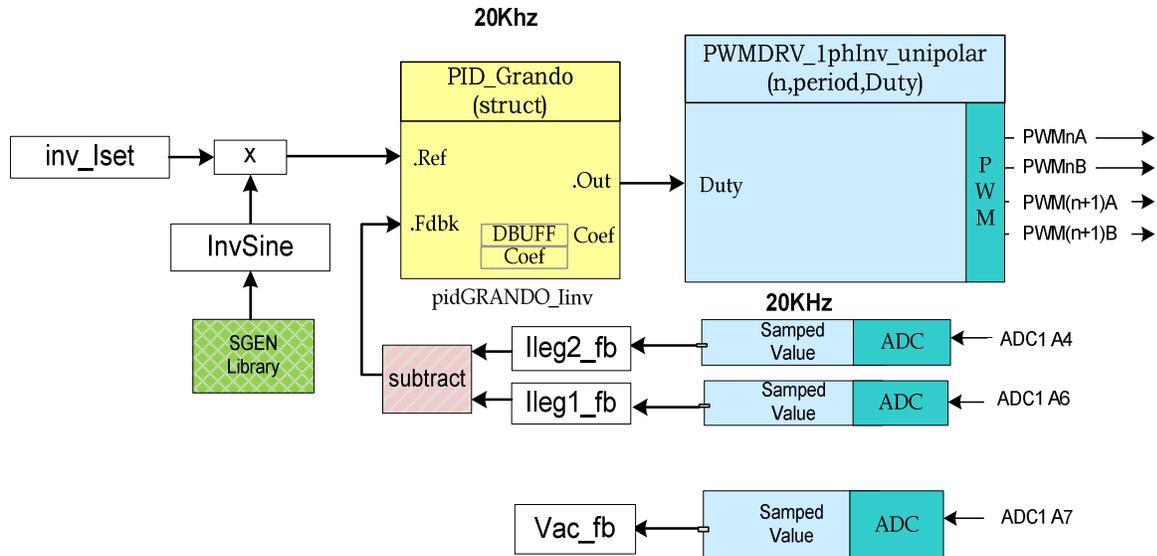

Fig 22 Build 1 Control Software Diagram
The PWM and ADC driver macro instantiations are executed inside the *SolarExplorer-Main.c* file. Fig 22 shows the software blocks used in this build. The quantities that are sensed and fed back to the MCU include - (1) the two inverter leg currents (Ileg1_fb, Ileg2_fb) sampled at appropriate time instance and the difference saved as inv_meas_cur_diff_inst, (2) Output AC voltage (Vac_FB) and (3) the DC bus voltage (VboostRead), not used in this build.